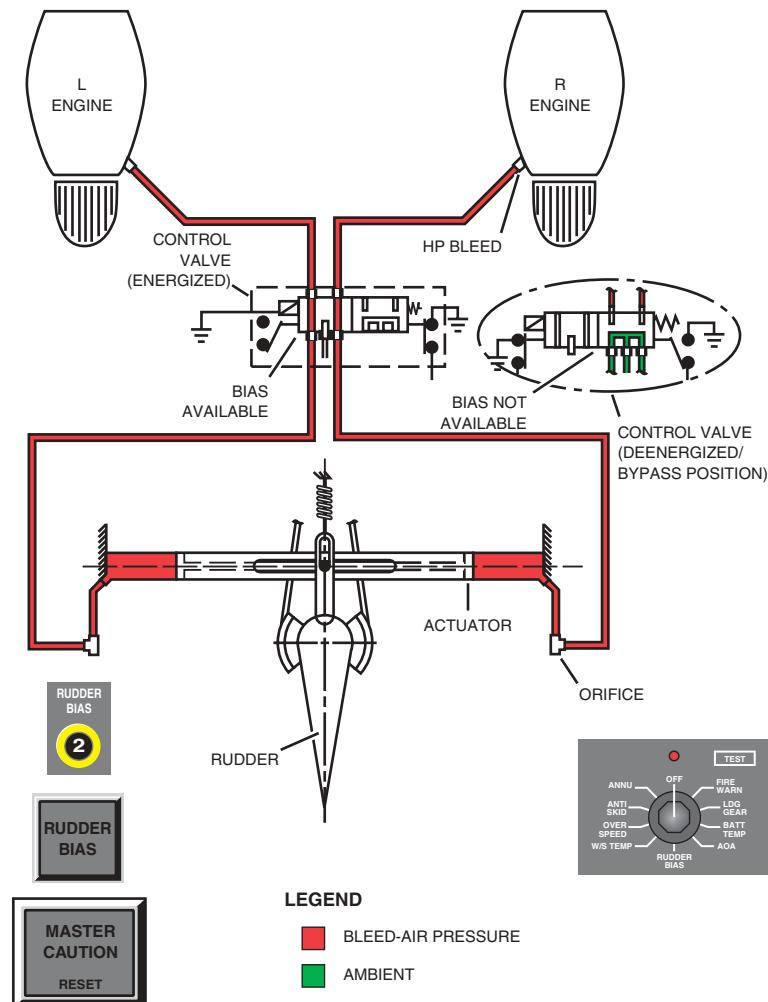

Figure SR-22. Rudder Bias System
9. Antiskid brakes (Figure SR-22):
See Figure SR-22.